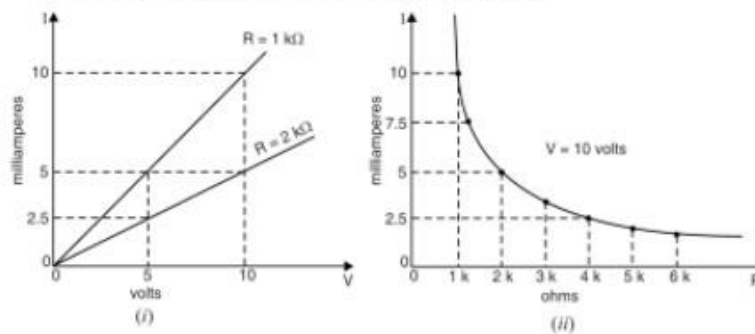

Fig. 1.7
- (i) **Ohmic conductors.** Those conductors which obey Ohm's law ($I \propto V$) are called ohmic conductors e.g. metals. The V - I graph for such a conductor is a straight line passing through the origin. Fig. 1.7 (i) shows V - I graph for two ohmic conductors namely 1 k Ω and 2 k Ω resistors. The 1-k Ω resistor conducts 5 mA at 5 V, 10 mA at 10 V. The 2 k Ω resistor conducts 2.5 mA at 5 V and 5 mA at 10 V.
- (ii) **Non-ohmic conductors.** Those conductors which do not obey ohm's law ($I \propto V$) are called non-ohmic conductors e.g. vacuum tubes, transistors, electrolytes etc. The V - I graph for such a conductor is non-linear. Fig. 1.7 (ii) shows ohm-ampere graph of a non-ohmic conductor for a fixed p.d. of 10 V. A 1 k Ω conductor conducts 10 mA, a 2 k Ω conductor conducts 5 mA and a 4 k Ω conductor conducts 2.5 mA. Note that relationship between resistance and current is non-linear.